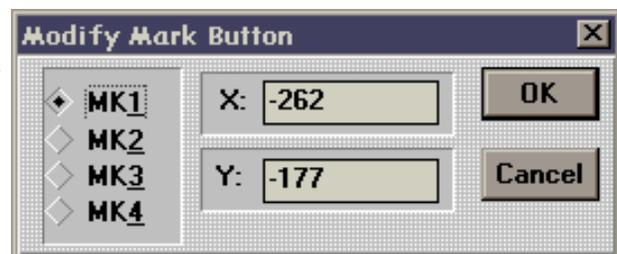

Figure 1-15
Method 3. Click on the mark point in the stitch list, then press Enter to display the Modify Mark Button dialog box (Figure 1-15). Change the X or Y coordinates of the mark point to the desired value and click OK.
Method 4. Double click on the mark point in the stitch list to display the Modify Mark Button dialog box (Figure 1-15). Change the X-Y values for the desired mark point and click OK.
- Method 2. Click on the mark point in the stitch list, then press Enter to display the Modify Mark Button dialog box (Figures 1-15). Click on the desired mark point select button. Click OK.
- Method 3. Double click on the mark point in the stitch list to display the Modify Mark Button dialog box (Figure 1-15). Click on the desired mark point select button. Click OK.